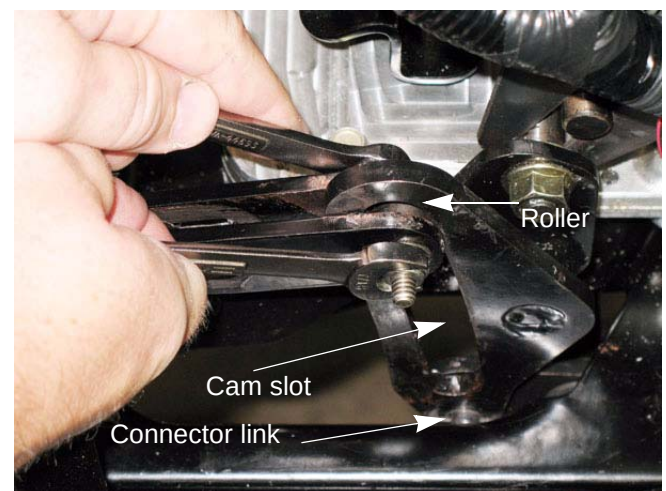

Figure 6.19
- 2b. Remove the nut and bolt attaching the transmission linkage to the levers on the steering gear box. See Figure 6.19.